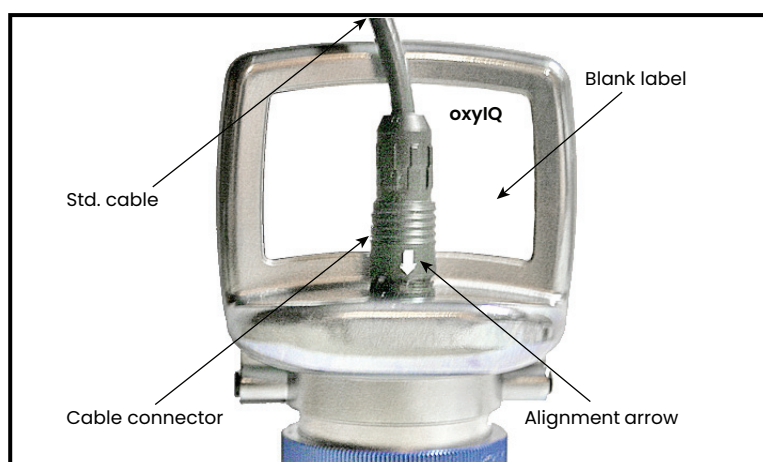

Figure 5: oxy.IQ Cable and Connector
1. Attach the appropriate cable to the oxy.IQ (see *Figure 5 below*). Be sure to align the white arrow on the cable connector with the white arrow on the oxy.IQ connector, and then push the top of the cable connector straight down onto the mating connector on the rear of the electronics module until you hear it click into place.